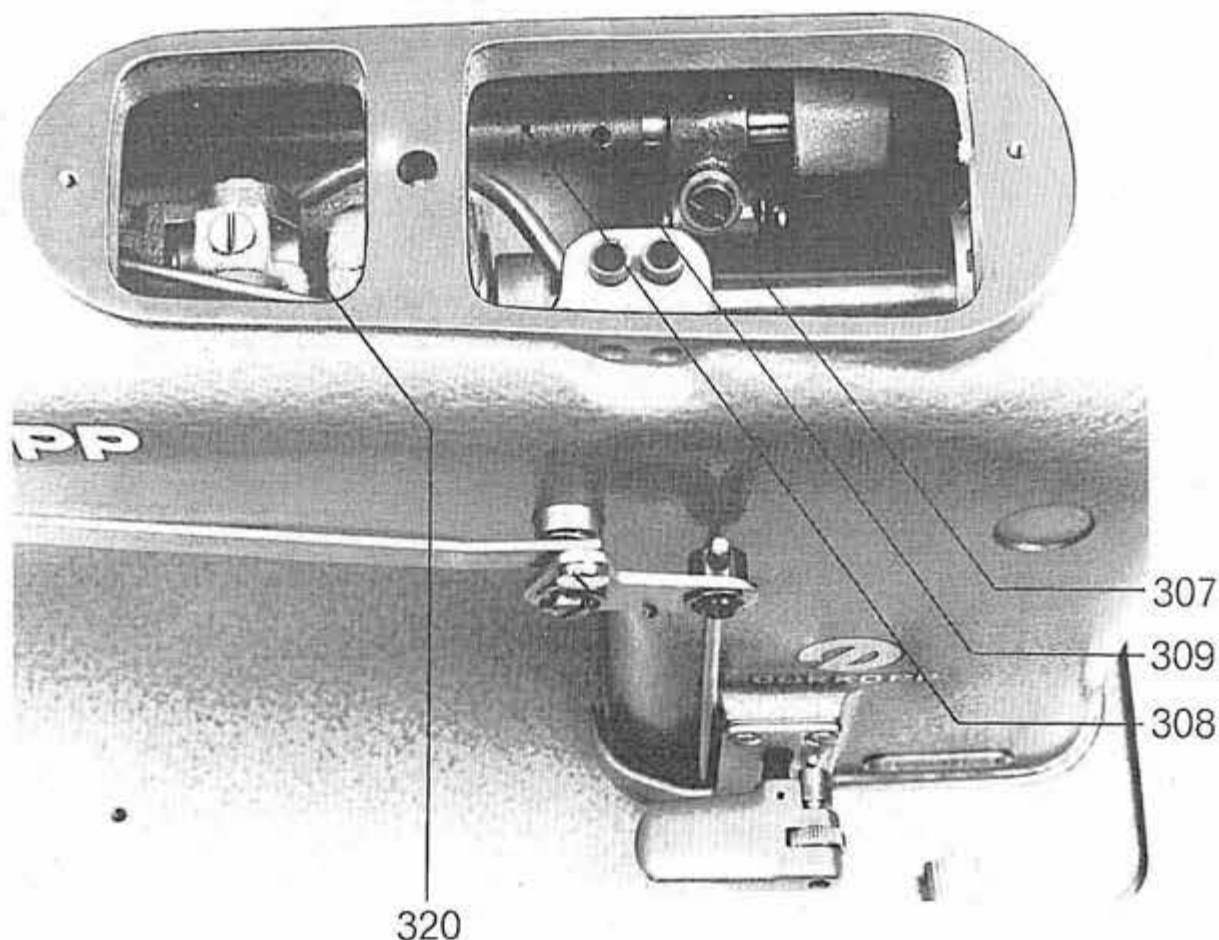

Fig. 42
1. Set stitch regulating lever on "0" by turning the knurled nut, remove the arm cover and loosen the thumb screw 307 (fig. 42). While turning the handwheel in the direction of rotation, revolve the crank shaft 308 by means of a mandrel, introduced in the bore 309, so that the feeding foot shows the minimum possible movement. Following the adjustment, retighten firmly the thumb screw 307.
The feeding foot should start rising when the point of the descending needle is level with the throat plate surface, i.e. when it stitches into the fabric. For timing, remove plug 319 (fig. 41), loosen the two eccentric fastening screws, accessible through the now free bore, and turn the eccentric 320 (fig. 42) accordingly.